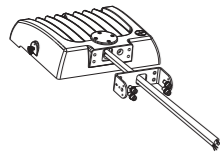

figure 4.1
Step 1: Take the lamp out of package; (figure 4.1)